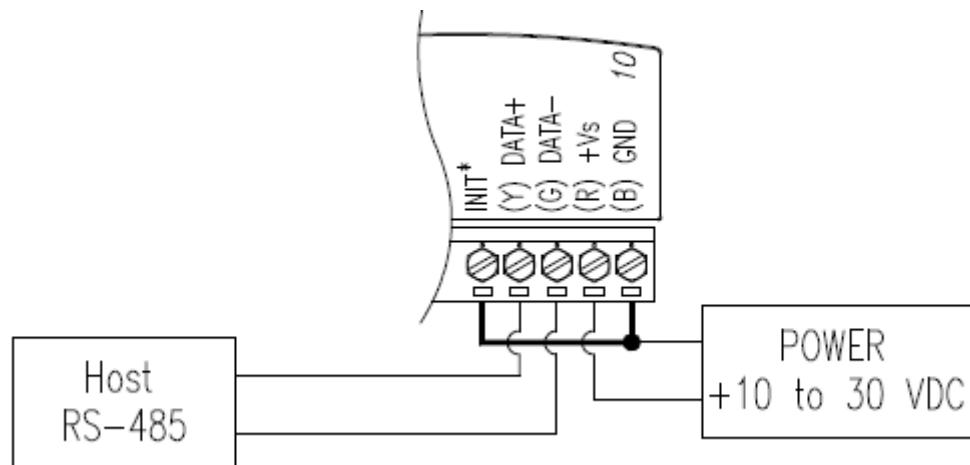
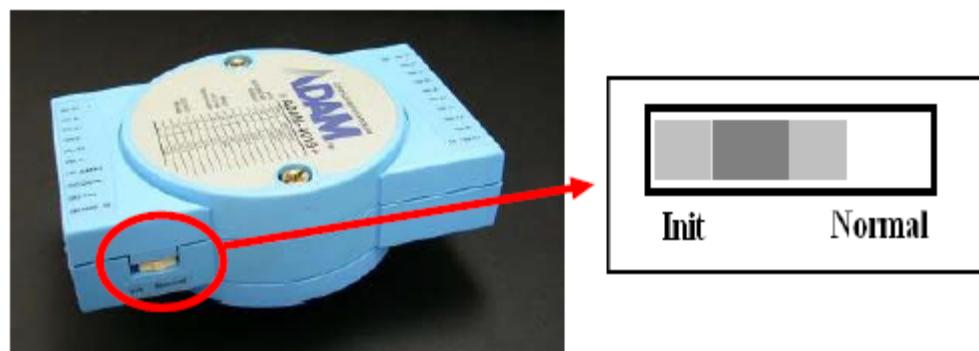

Figure 2.3 Grounding the INIT\* Terminal
Figure 2.4 Set INIT switch to “Init”
Since there is no visual indication of a module's configuration status, it is impossible to know the baud rate, address and other settings just by looking at it. It might not be possible to establish communications with a module whose baud rate and address are unknown. To overcome this problem, most modules have an input terminal labeled INIT\*. Booting the module while connecting the INIT\* terminal with the module's GND terminal forces the configuration into a known state called the INIT\* state. Besides, some newer modules have INIT switch which you can set "Init" or "Normal" (See Figure 2.4). If you set the switch to "Init", then it becomes INIT\* state.
- • Power the ADAM module on while shorting the INIT\* and GND terminals (See Figure 2.3) or set the INIT switch to “Init” (See Figure 2-4)